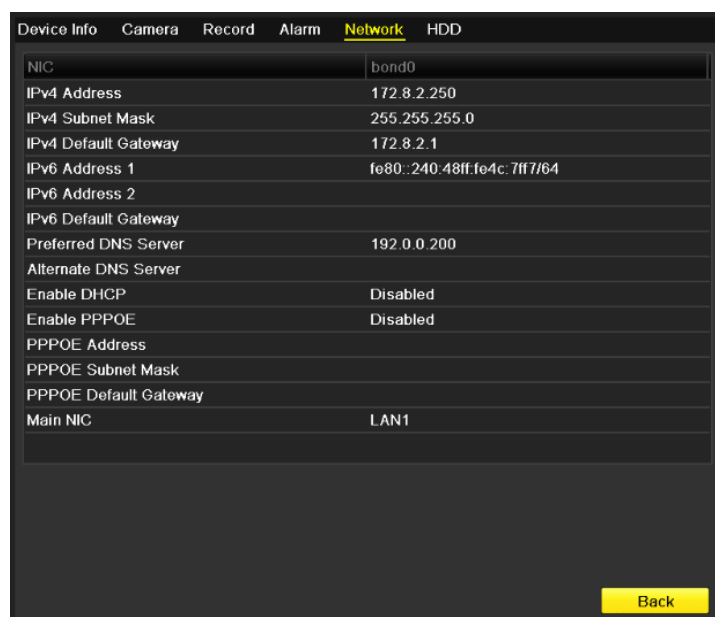

Figure 12.5 Network Information Interface
2. Click the **Network** tab to enter the Network Information menu to view the network information, as shown in Figure 12.5.